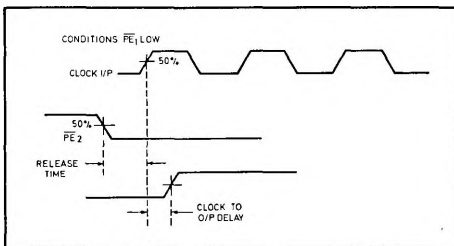

Fig. 4 Release timing diagram
- Release time is defined as the minimum time that can elapse between a H $\rightarrow$ L transition of a control input and the next L $\rightarrow$ H clock pulse transition to ensure that the  $\bar{2}$ 11 mode is forced by that clock pulse (see Fig. 4).